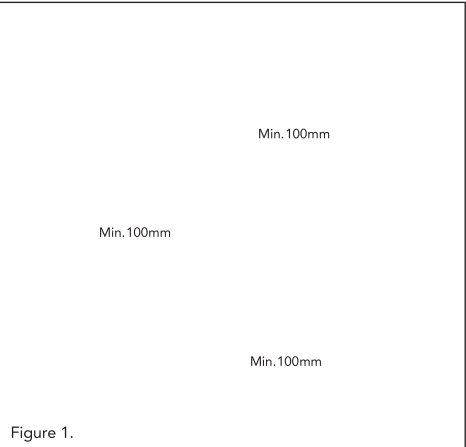

Figure 1.
- The radiator must be positioned according to the applicable standards and the minimum distances as specified in figure 1 should be carefully observed.